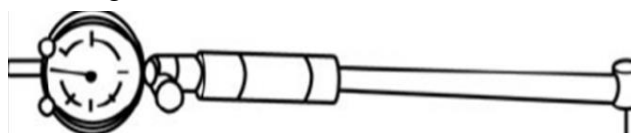

Fig. 4-9
- (4) After disassembling valve mechanism, check cylinder cover intake and exhaust passage for water leakage and other problem, if leakage is discovered, liquid penetrant test should be done after cleaning to locate the problem, replace the cylinder cover.
- (5) Clean cylinder cover, focus on combustion chamber surface, valve seat, intake and exhaust valve, intake and exhaust passage, remove the carbon deposit and mucilage glue, and check the surface condition.
- (6) Check valve guide pipe inner diameter. Due to internal surface of valve guide pipe is the contacting surface between valve rod and valve guide pipe, if clearance between valve rod and valve guide pipe exceeds allowed value due to abrasion, then the guide effect will at state, which may affect reliability of the engine. The inner diameter of guide pipe can be measured with an inside micrometer, as shown in Fig. 4-9. Allowed range for inner diameter of guide pipe is 11~11.018mm. If it exceeds allowed range, the cylinder cover must be replaced to ensure reliability of diesel engine.